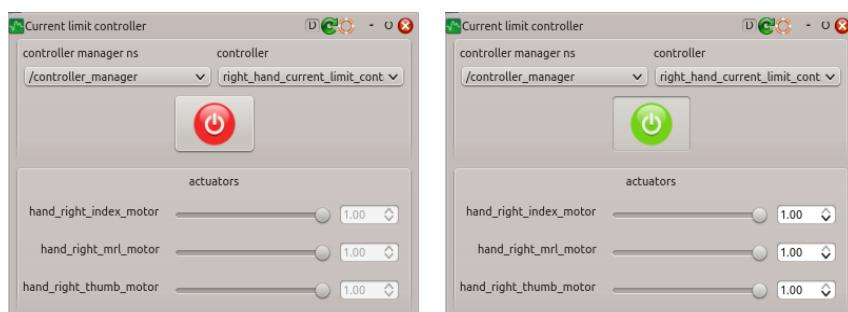

Figure 56: Detail of the joint control panel in monitor (left) and control (right) modes.
- (a) On the bottom-left of the GUI is the panel for controlling actuator current limits, named `Current limit controller`, detailed in Figure 56. Activate the gripper current limit controller by selecting `/controller_manager` and `right_gripper_current_limit_controller` on the panel's combo boxes, as shown below.